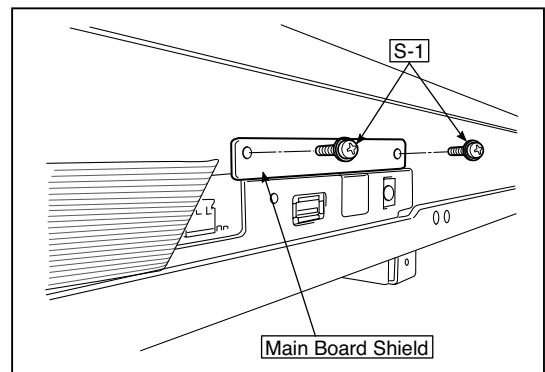

Fig.2
2.Remove the”S-1” screws shown in the figure 2 and then remove the Main Board Shield.